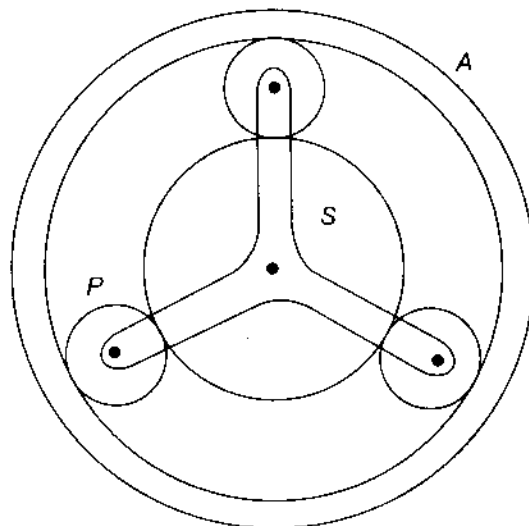

Fig.12.35 Epicyclic gear train of the sun and planet type
- 14** In an epicyclic gear train of the sun and planet type shown in Fig.12.35, the pitch circle diameter of the annular wheel A is to be nearly equal to 216 mm, and the module is 4 mm. When the annular wheel is stationary, the spider which carries three planet gears P of equal size, has to make one revolution for every five revolutions of the driving spindle carrying S gear. Determine the number of teeth on all the wheels and also the exact pitch circle diameter of A .